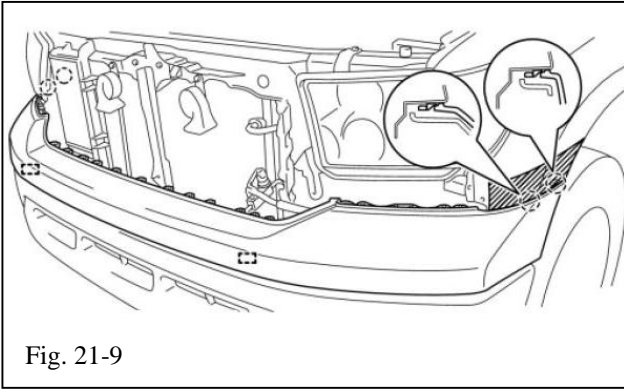

Fig. 21-9
- (5) Detach the 4 claws and 2 pins and remove the upper bumper cover (Fig. 21-9).